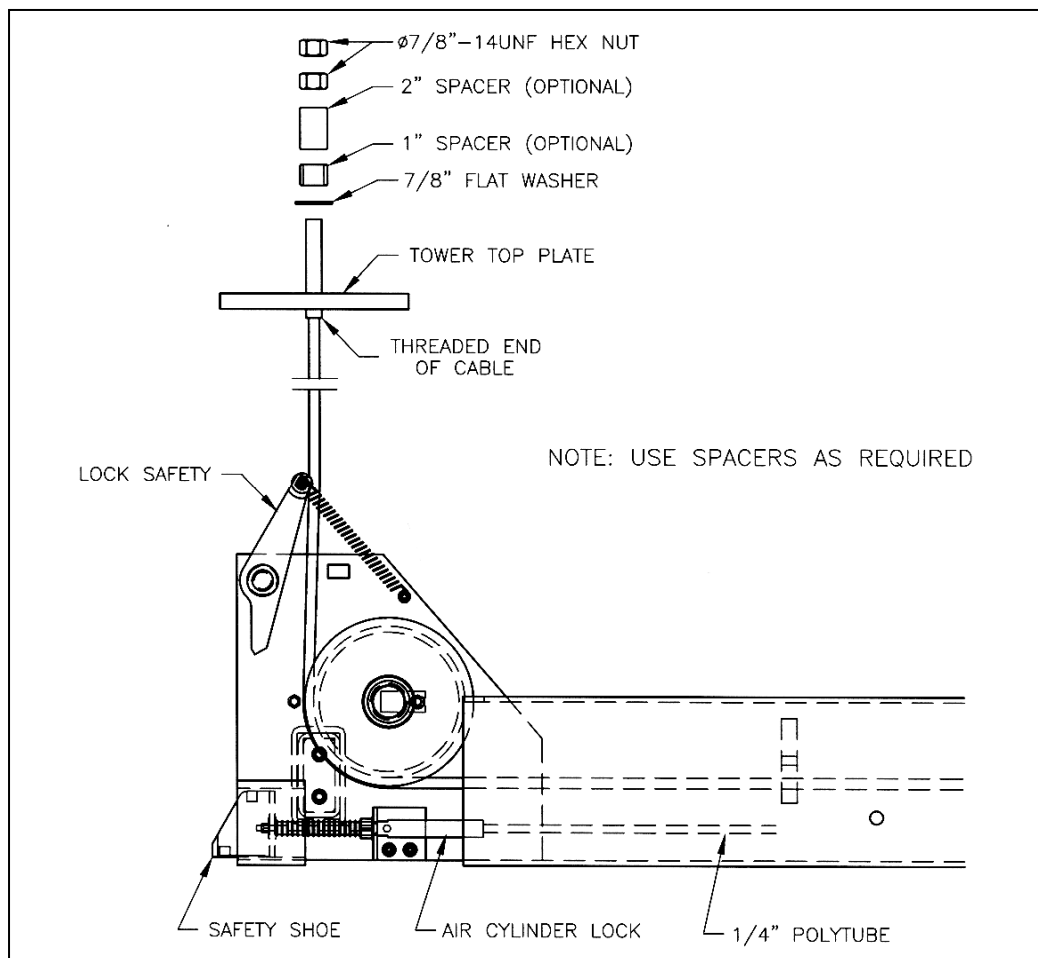

Figure 18. Cable routing diagram
1. Assemble each cable to the top plate of their respective towers. Secure in place with 7/8" washer and two 7/8" hex nuts. See **Figure 18**.